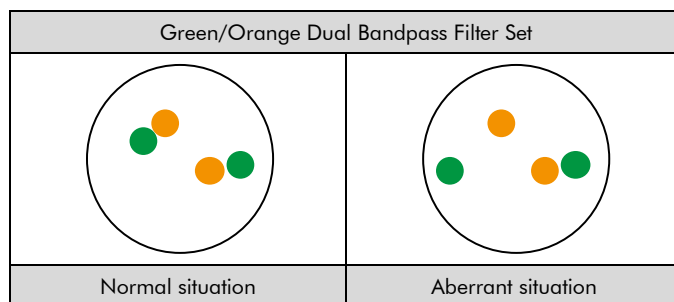

Fig. 2: Expected results in normal and aberrant nuclei
**Normal situation:** In interphases of normal cells or cells without a translocation involving the JAK2 gene region, two green/orange fusion signals appear (see Fig. 2).
**Aberrant situation:** One JAK2 gene region affected by a translocation is indicated by one separate green signal and one separate orange signal (see Fig. 2).